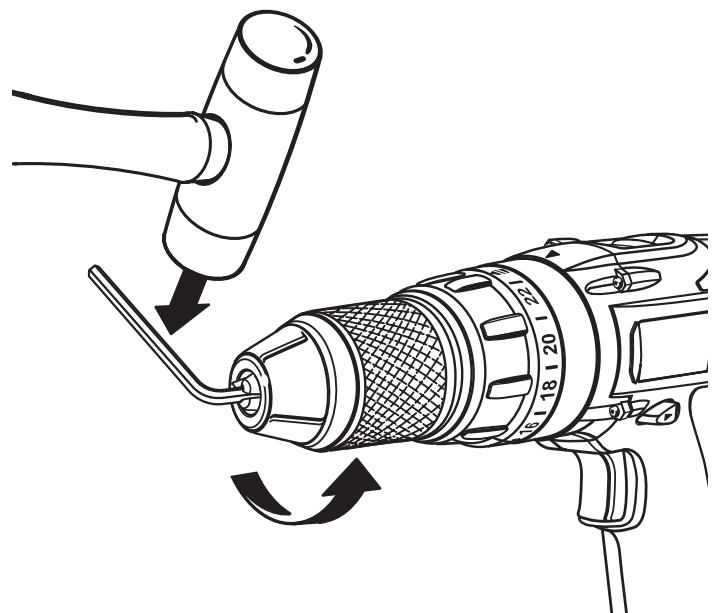

Fig. 16
- Insert the hex key in the chuck and tighten chuck jaws securely. Tap sharply with a mallet in a counterclockwise direction. This will loosen the chuck on the spindle. It can now be unscrewed by hand. See Figure 16.